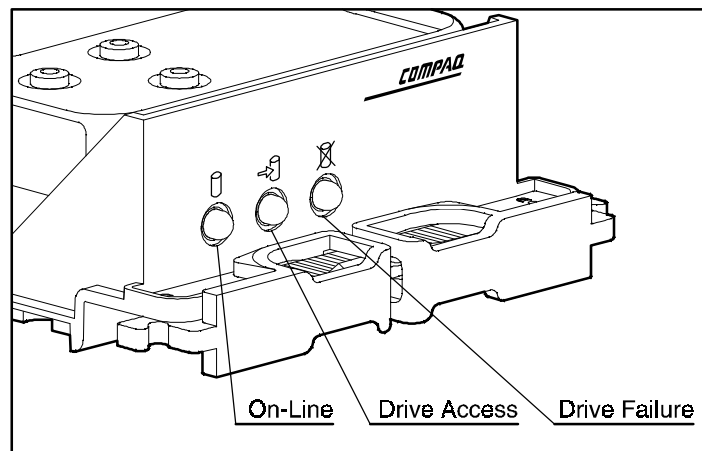

Figure 3-1. Drive Tray LEDs in the Compaq ProLiant
The Compaq ProLiant has three LEDs on the front panel that identify power, aggregate drive activity, and service required. Three LEDs on each drive tray indicate drive status, activity, and failure. Figure 3-1 illustrates the location of drive tray LEDs.
7. Verify the hard drive is receiving power by checking the On-Line LED (Figure 3-1).